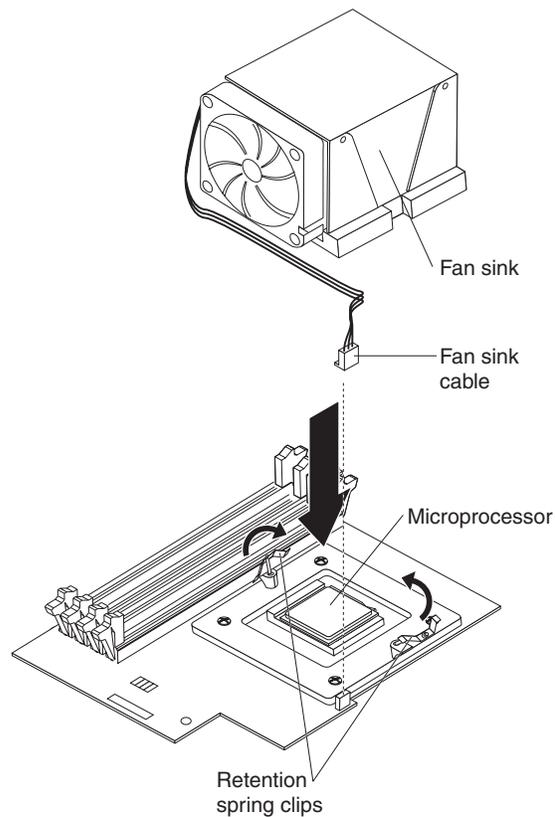

Figure 21. Installing the fan sink
- c. Remove the release liner and orient the fan sink above the microprocessor (see Figure 21).